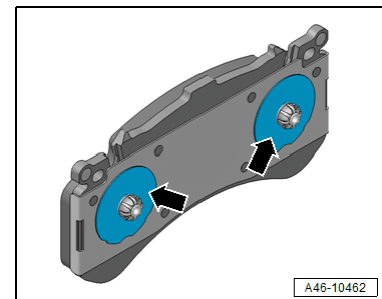

Figure 1. Shims on back of front brake pads.
- Some vehicles have two shims glued to the back of the front brake pads (Figure 1). **Do not** transfer these shims to the new pads.